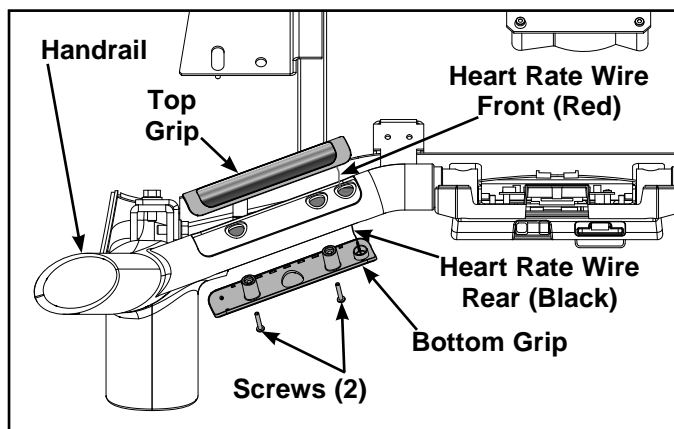

Figure 28
- A. Using a Phillips screwdriver, remove the two screws from the bottom grip. See Figure 28.
- B. Gently pull the top and bottom grip off of the handrail. See Figure 28.
- A. Using the needle nose pliers, carefully connect the heart rate wire to each grip. **NOTE:** Ensure that the red heart rate wire is connected to the top grip and the black heart rate wire is connected to the bottom grip. See Figure 28.
- B. Place the top and bottom grip in the correct position on the handrail. See Figure 28.
- C. Using a Phillips screwdriver, remove the two screws from the bottom grip. See Figure 28.